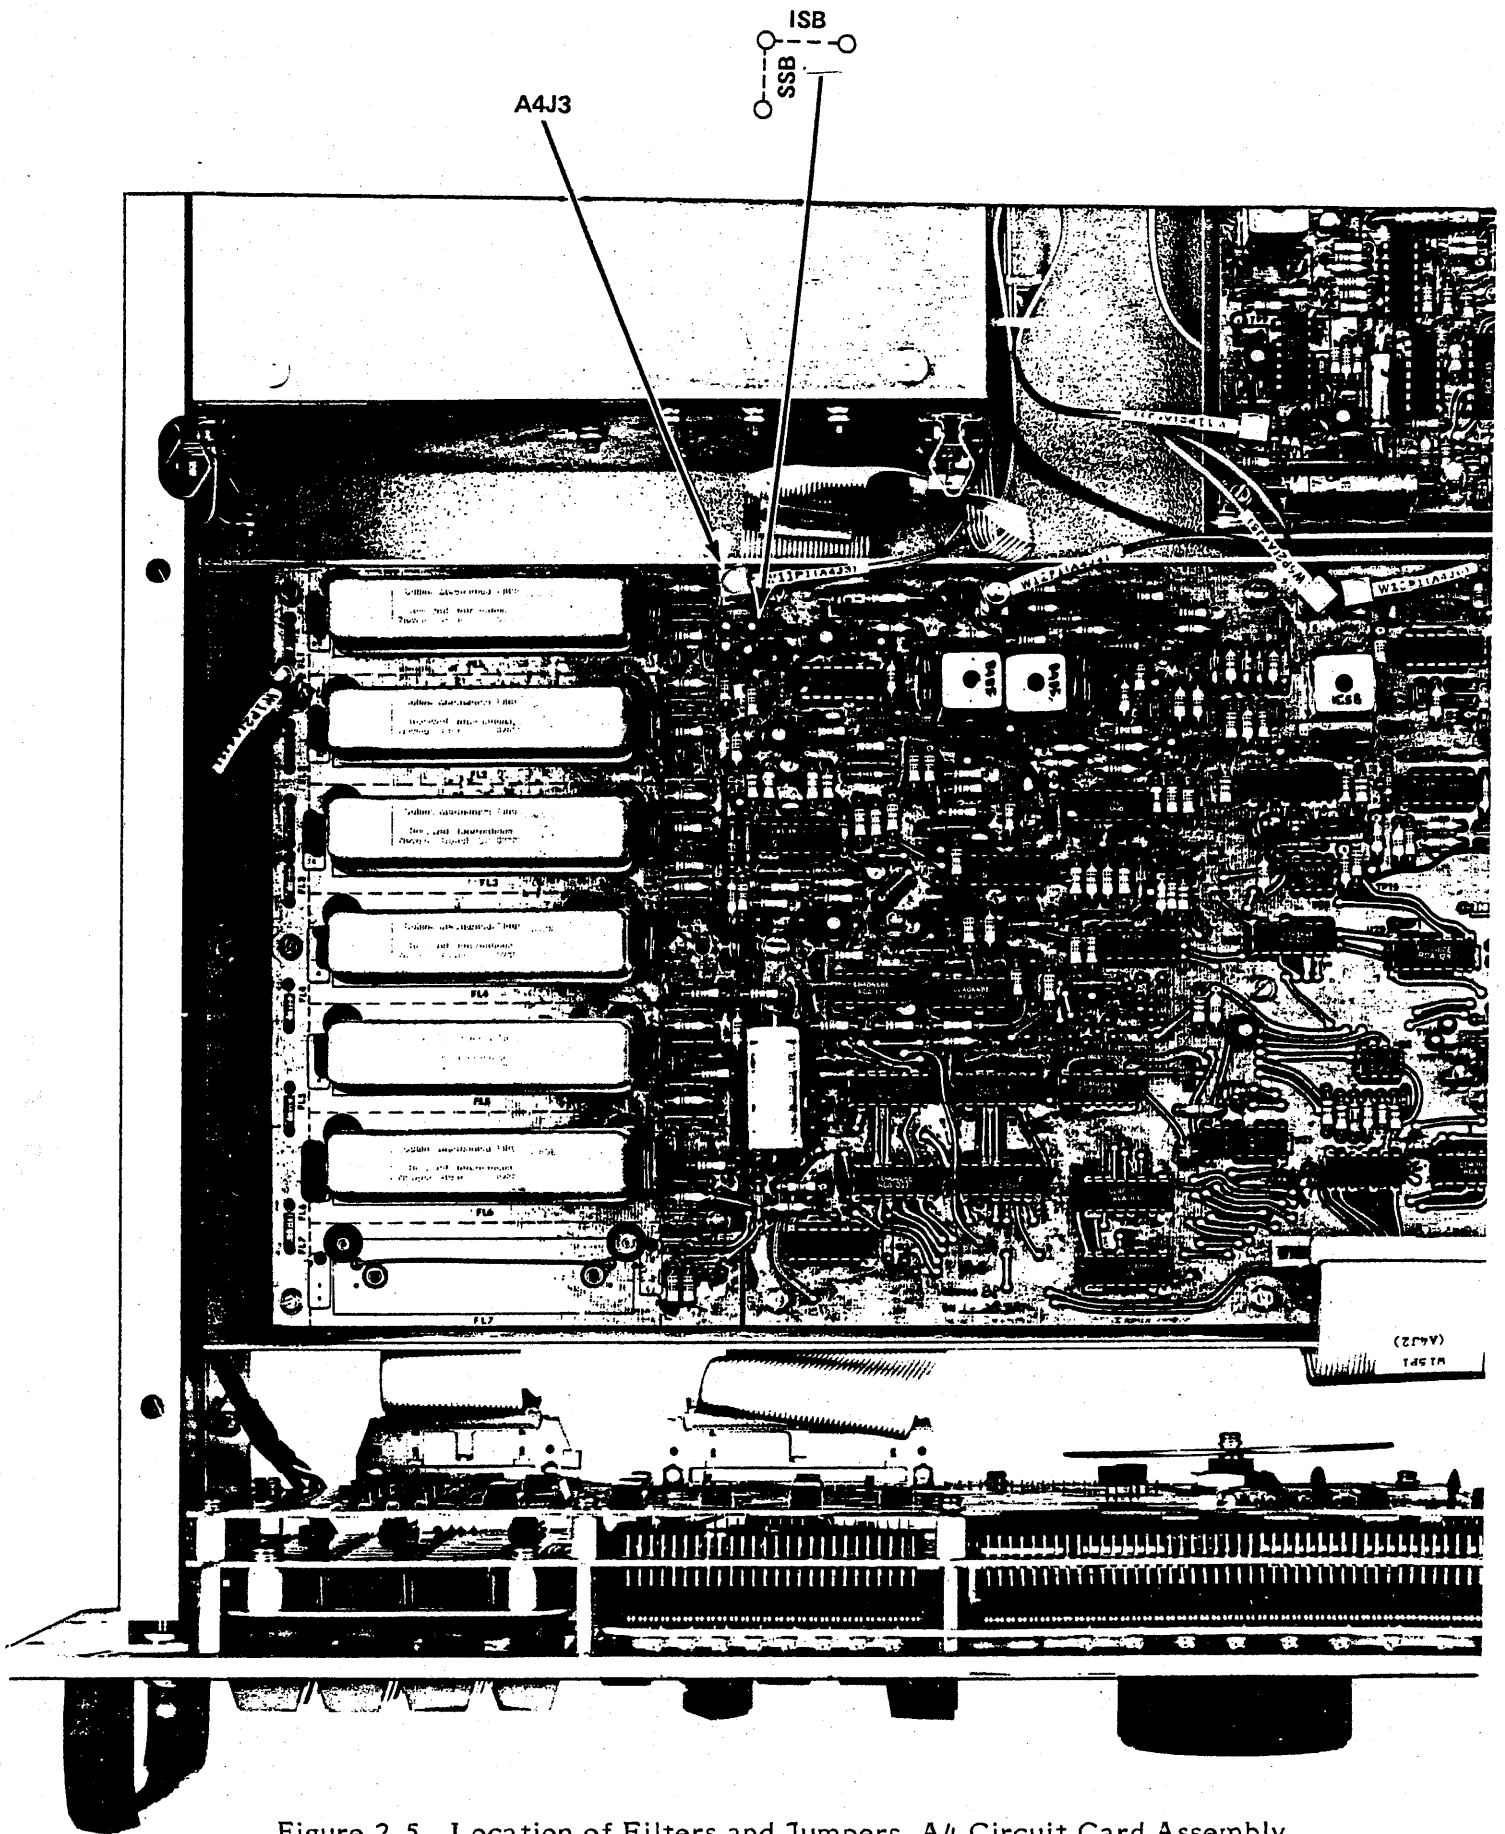
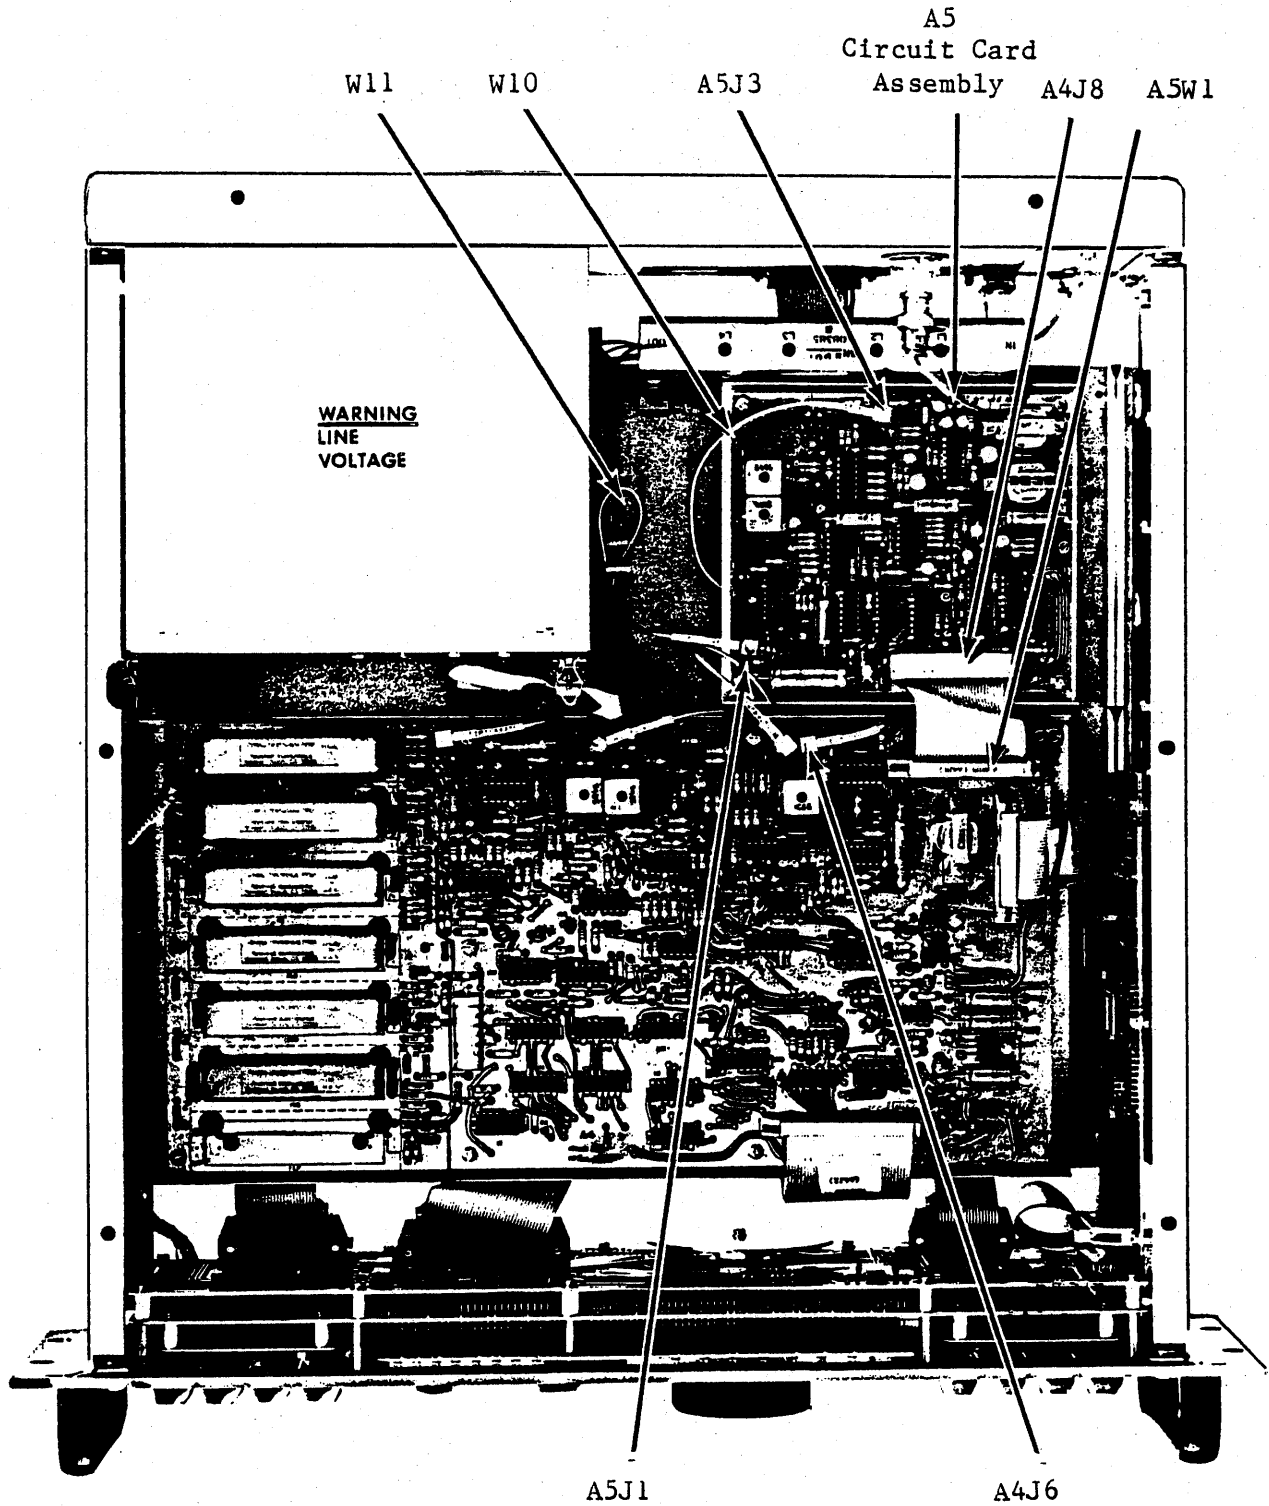

Figure 2-5. Location of Filters and Jumpers, A4 Circuit Card Assembly
Figure 2-6. Receiver Options, Installation Details
If the Receiver is to be operated in the ISB mode, the A5 circuit card assembly must be installed in the Receiver. The A5 card is located towards the rear of the Receiver, between the A1 assembly and the A4 circuit card assembly as shown in Figure 2-6. The following procedure details the steps necessary to install the A5 circuit card assembly. Refer to Figures 2-5 and 2-6 for the location of cables and connectors.
4. The mechanical jumper on the A4 circuit card assembly must be properly positioned for ISB/SSB operation. The jumper, designated LK1, is physically located to the right of filter position FL1 when looking from the front of the Receiver, (Refer to Figure 2-5.) With the A5 circuit card assembly installed, the jumper must be connected across the two terminals designated ISB.